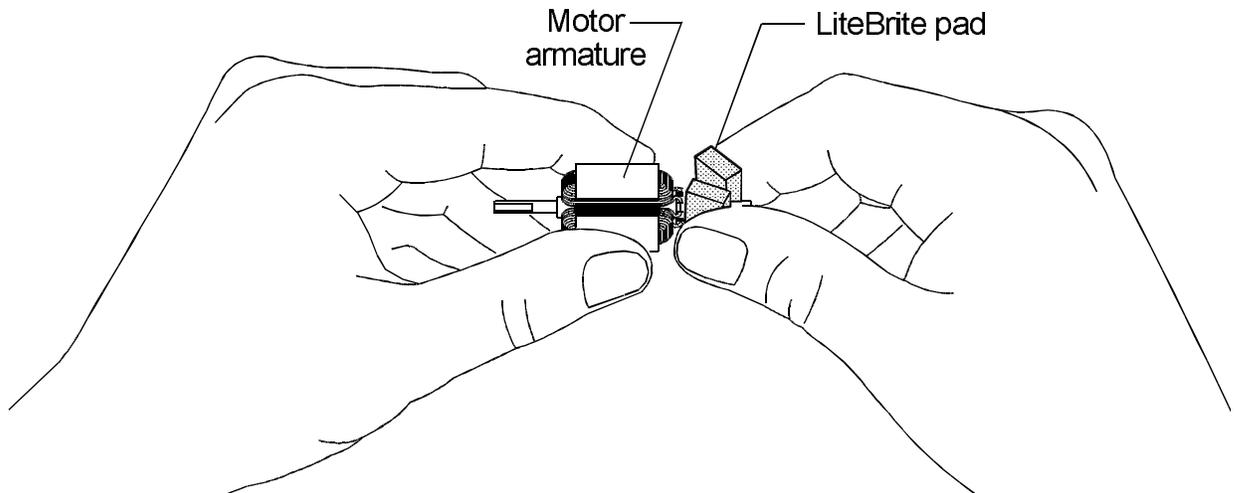

Figure 3-6.
8. If the commutator surface is smooth but dark and discolored, clean it with a LiteBrite commutator cleaning pad until it is a shiny copper color (six to ten twists by hand) as shown in Fig. 3-6.